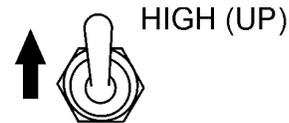

Figure 50. Engine Speed Switch (High)
2. Place the **engine speed switch** (Figure 50) in the **HIGH** position